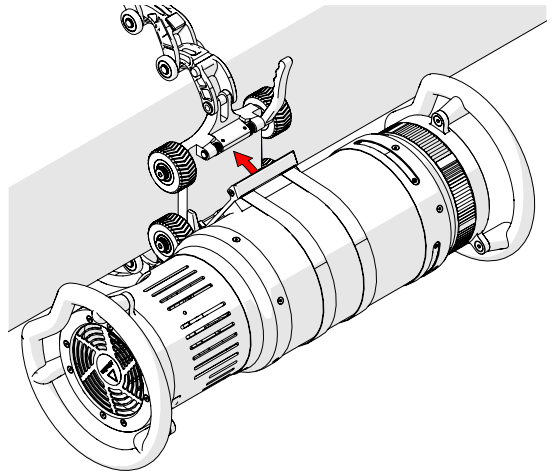

Fig. 77 - Mount source to source cart
14. Attach the source (Fig. 77) to the mounting plate (see "Mounting Plate" on page 33).
15. Angle the mounting plate (Fig. 77) and press the mounting plate onto the source cart base (see "Attaching the Mounting Plate" on page 32).